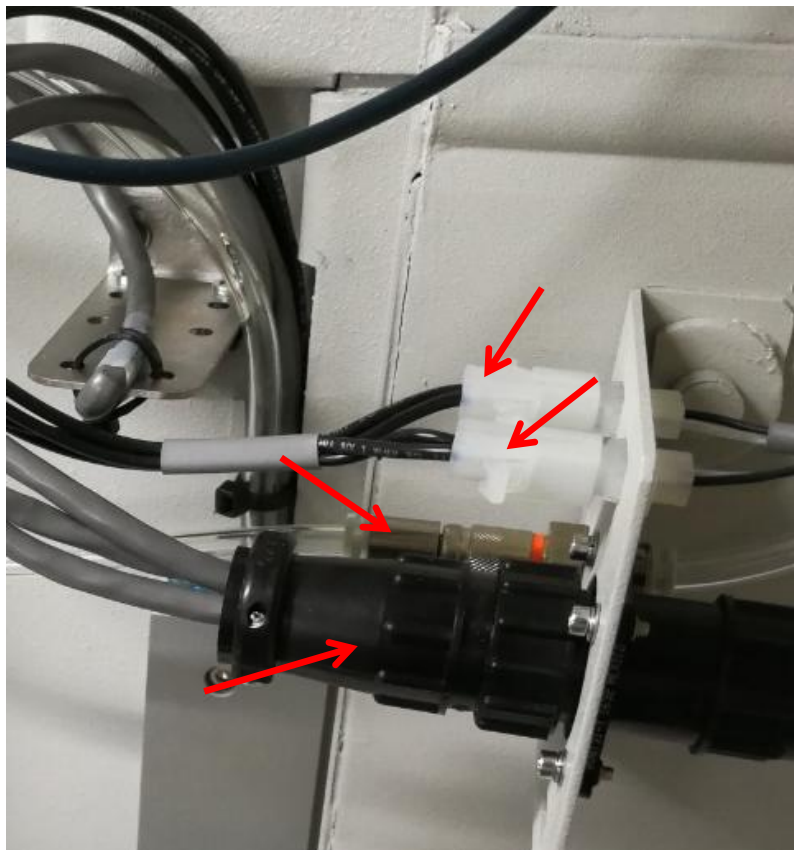

Figure 2
4. Disconnect 4 x Connector as below Figure 2